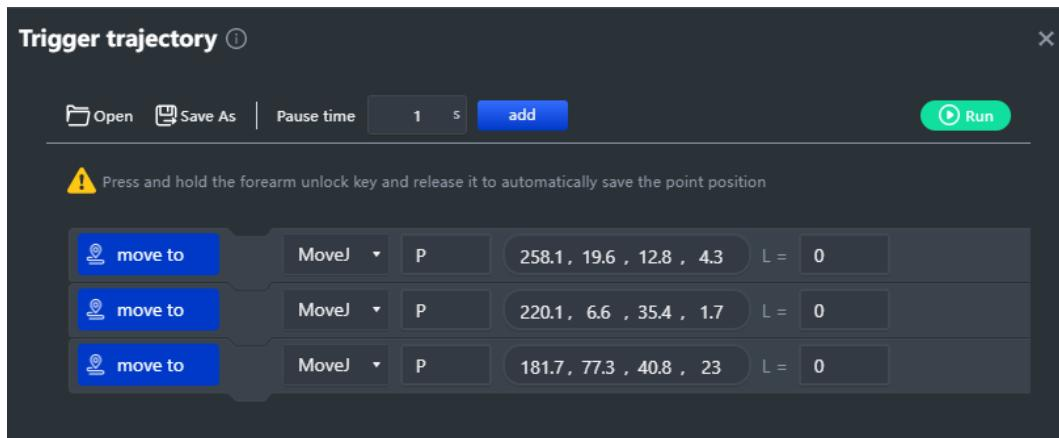

Figure 5.46 Trigger line page
2. Click to enter the “Trigger Trajectory” page for setting ink dipping actions, as shown in Figure 5.46.